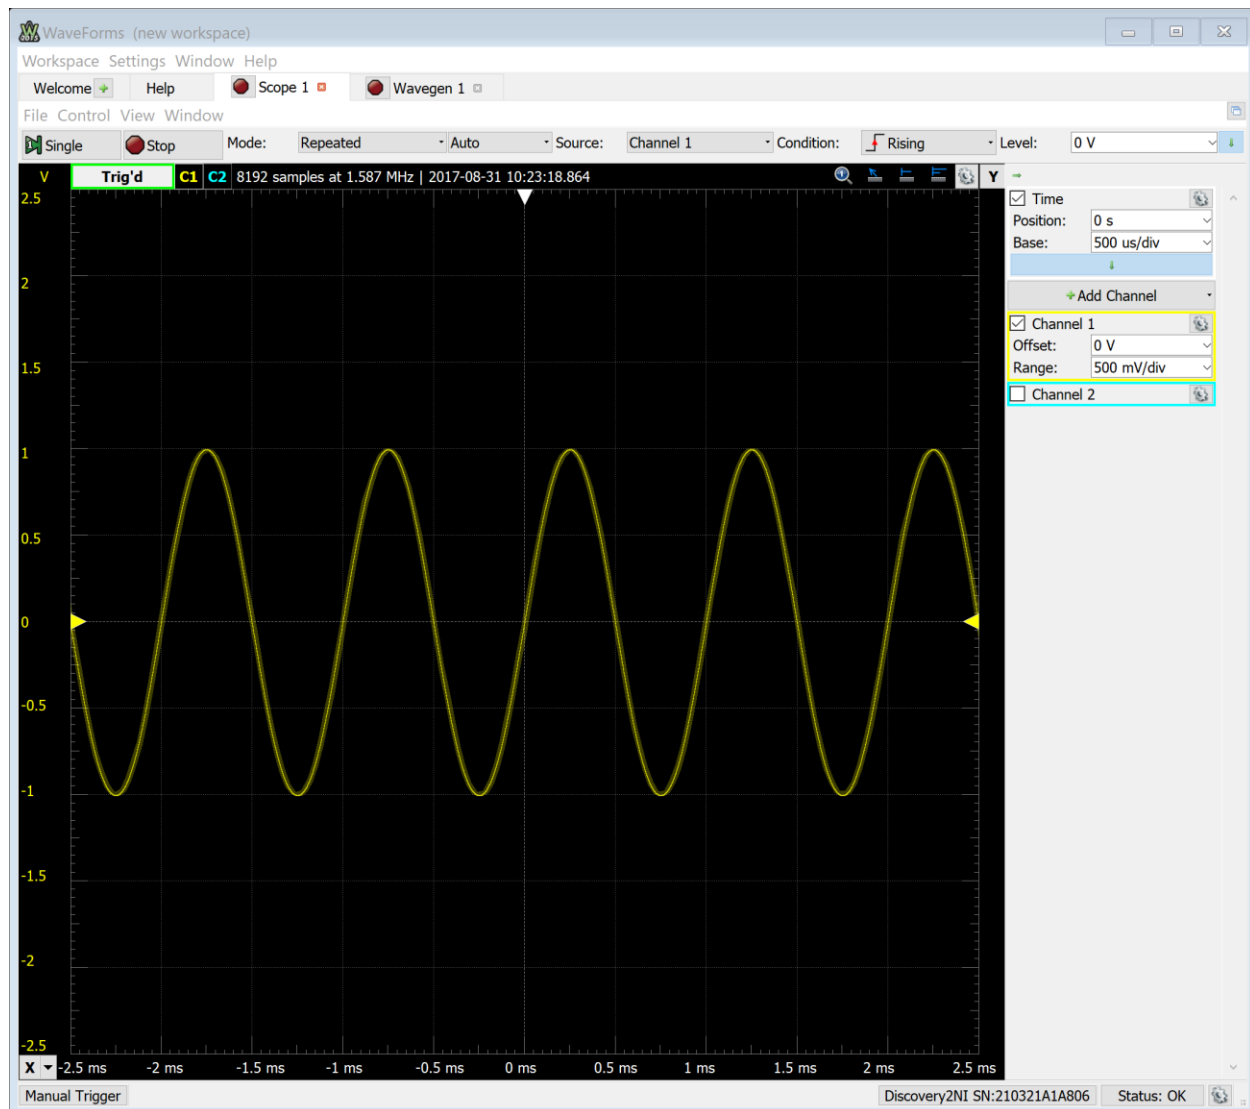

Figure E.5: AD2 Oscilloscope Window
Use the “scope” button from the main window to launch the AD2’s oscilloscope. An oscilloscope measures time varying voltages and displays them on a screen. A typical scope output looks like the one shown in Figure E.5. There are several parameters you will need to select including:
- **Source:** Where do you want to measure the voltage from? In the case shown in Figure E.5, Channel 1 is selected as the source and so the scope is measuring the voltage between the terminals 1+ and 1-.
- **Time:** These parameters select the scale of the horizontal (time) axis. In the example in Figure E.5, the time based is set to 500µsec per division.
- **Channel 1:** Right below the settings for the time axis are the settings for the vertical (voltage) axis. In the case of Figure E.5, the voltage scale is set to ½ volt per division. If Channel 2 were selected, there would be a different axis scale setting for the Channel 2 voltage. They don’t need to be on the same scale.
- Condition: This sets the triggering mechanism for the scope which determines how the waveform is centered on the scope display. In the case of Figure E.5, the triggering is set so that the center of the waveform occurs when the rising edge crosses the 0V level.